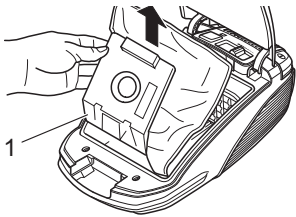

Fig. 19
3. Pull the dust bag holder (Fig. 19/1) up and out.
8. Push the dust bag holder (Fig. 19/1) into the rail provided for this purpose.